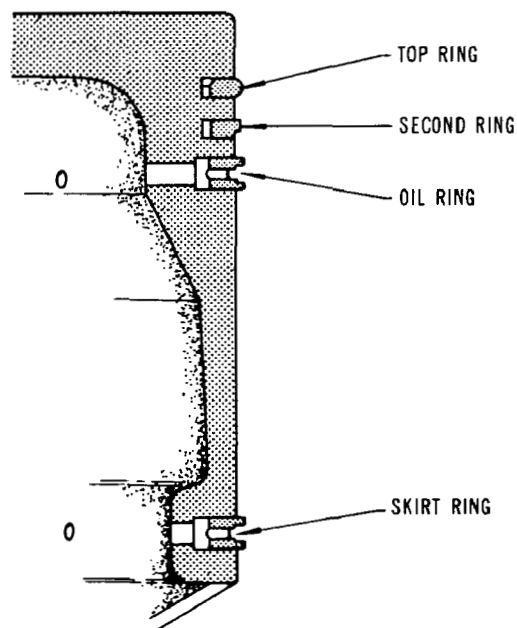

Fig. 6-3-11
2. MOUNT SECOND RING WITH SCRAPER EDGE DOWN OTHERWISE OIL PUMPING AND EXCESSIVE OIL CONSUMPTION MAY RESULT. Refer to Fig. 6-3-11 for correct placement of rings.